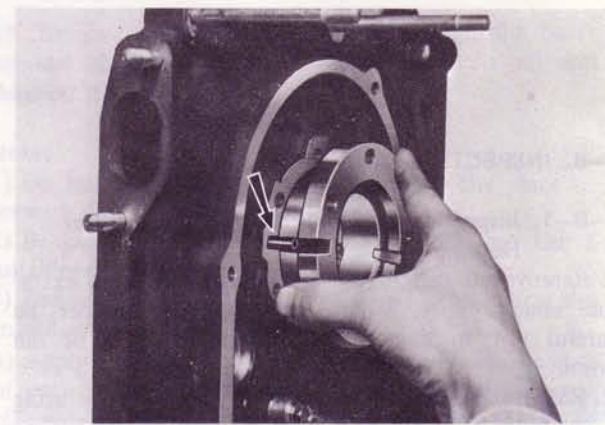

Fig. 1-32 Aligning stationary gear
- 4) Press in the stationary gear to the housing with the **main bearing replacer** (49 0813 235), aligning the slot of the stationary gear flange and the dowel pin on the housing, as shown in Fig. 1-32.